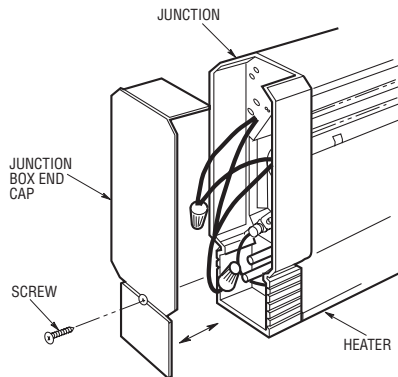

Figure 3. Removal of End Cap
3. Remove the left or right junction box end cap by removing the screw in the end of the heater and sliding the cap outward from the heater (Figure 3).